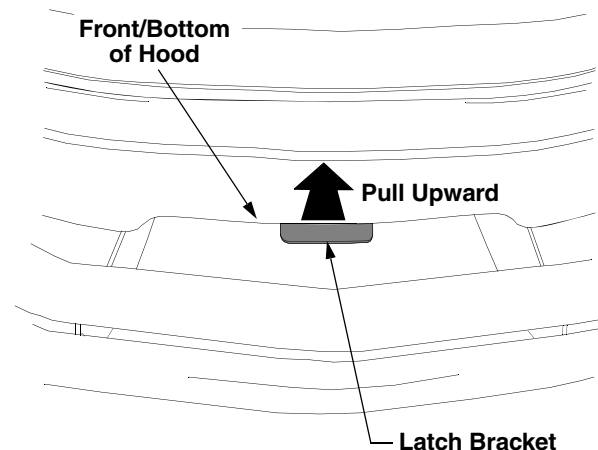

Figure 8
- Locate the latch bracket at the bottom/center of the front of the hood. See Figure 8.